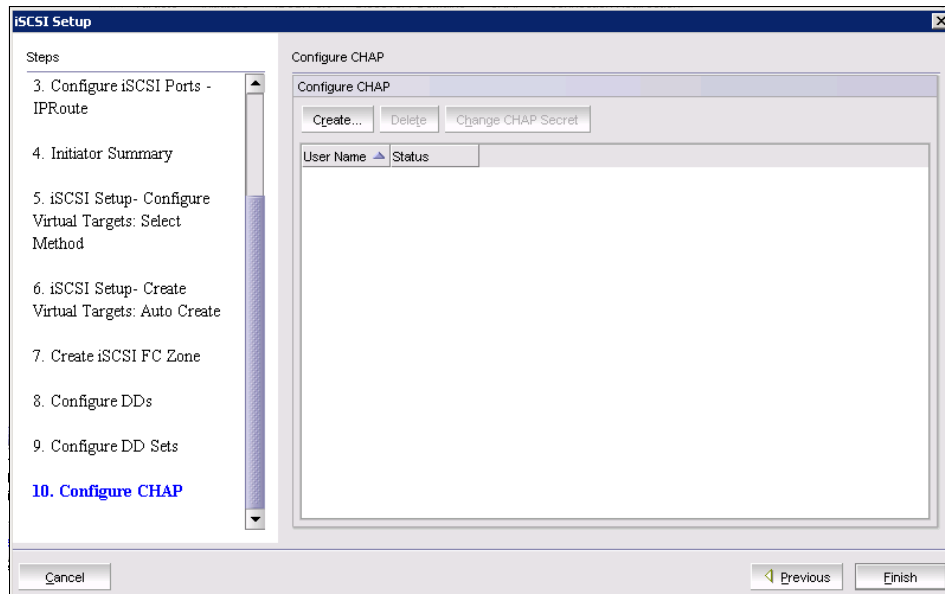

Figure 11-38 CHAP configuration
15. A window for configuring CHAP authentication opens. Skip this step and click **Finish** to finish the wizard, as shown in Figure 11-38.